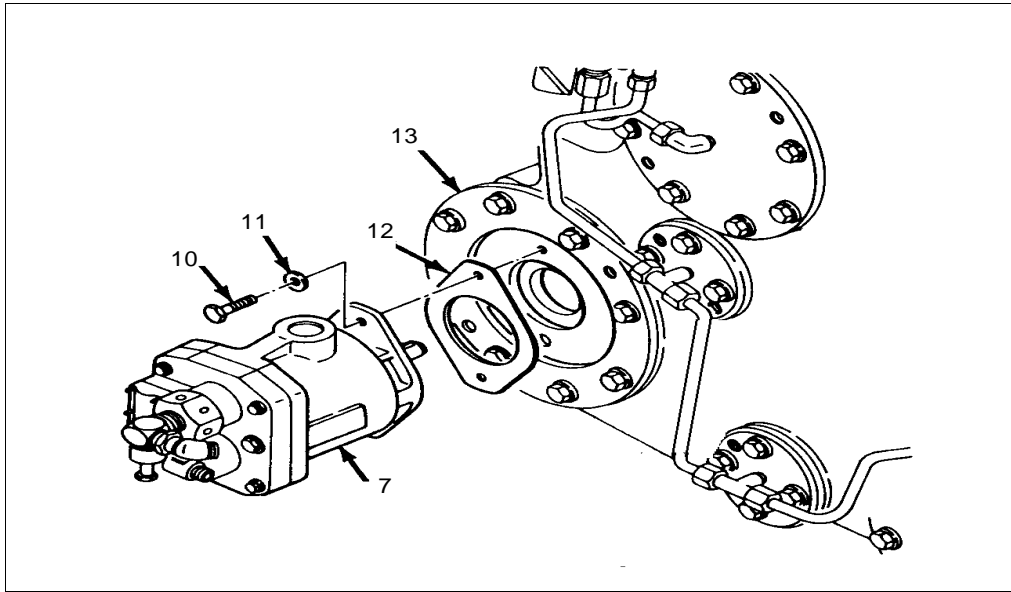

Figure 1-13. Removing the piston pump
b. Refer to Figure 1-13, page 1-14, to remove the piston pump. Remove the two self-locking screws (10), washers (11), pump (7), and gasket (12) from the transfer case (13). Discard the screws (10) and the gasket (12).
b. Refer to Figure 1-13, page 1-14, and install the piston pump using the following steps:
- Clean the mounting surfaces of the pump (7) and transfer case (13).